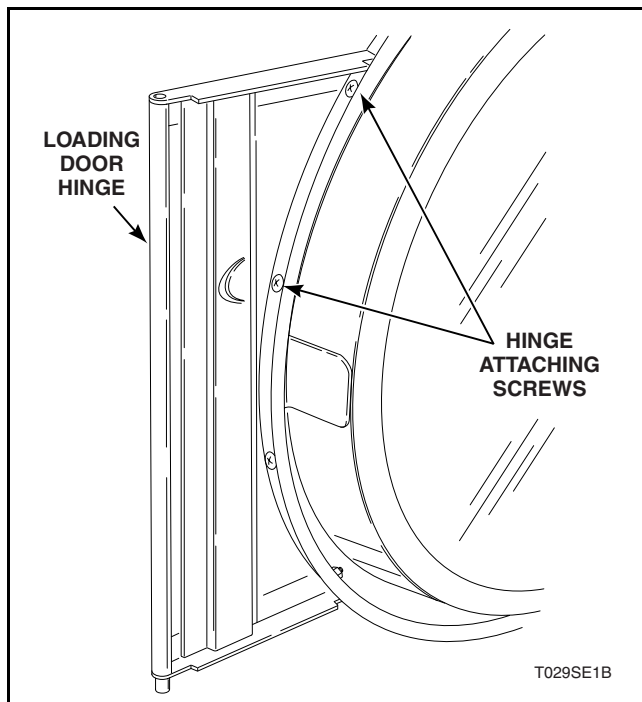

Figure 24
- d. Remove nuts and screws holding hinge to door frame. Refer to *Figure 24*.